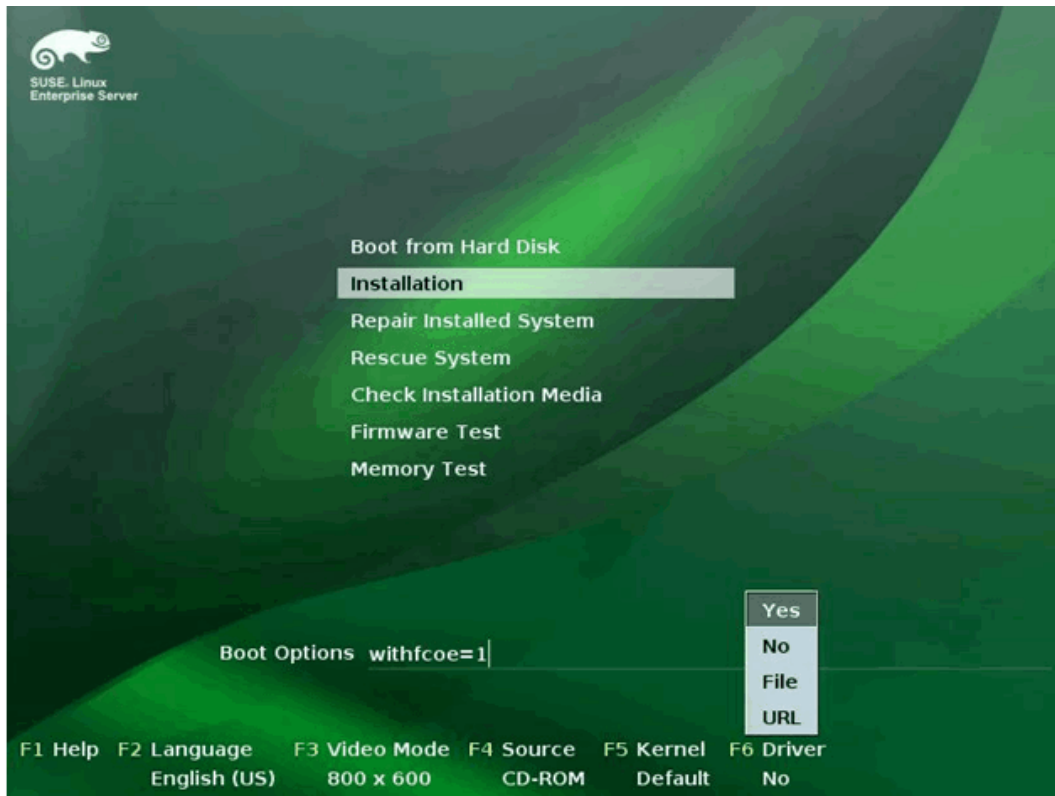

Figure 13-11. Starting SLES Installation
- e. Click **Installation** to proceed (Figure 13-11).